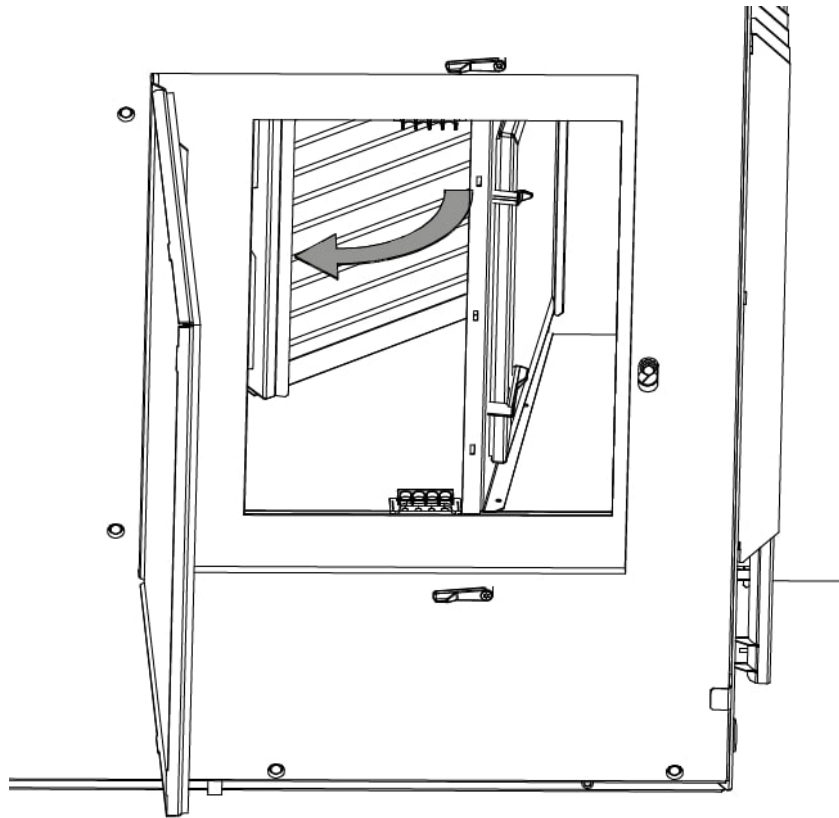

Figure 29: Open the hinge that keeps the fine filter in place
6. Open the hinge that keeps the fine filter in place, see Figure 29 below.